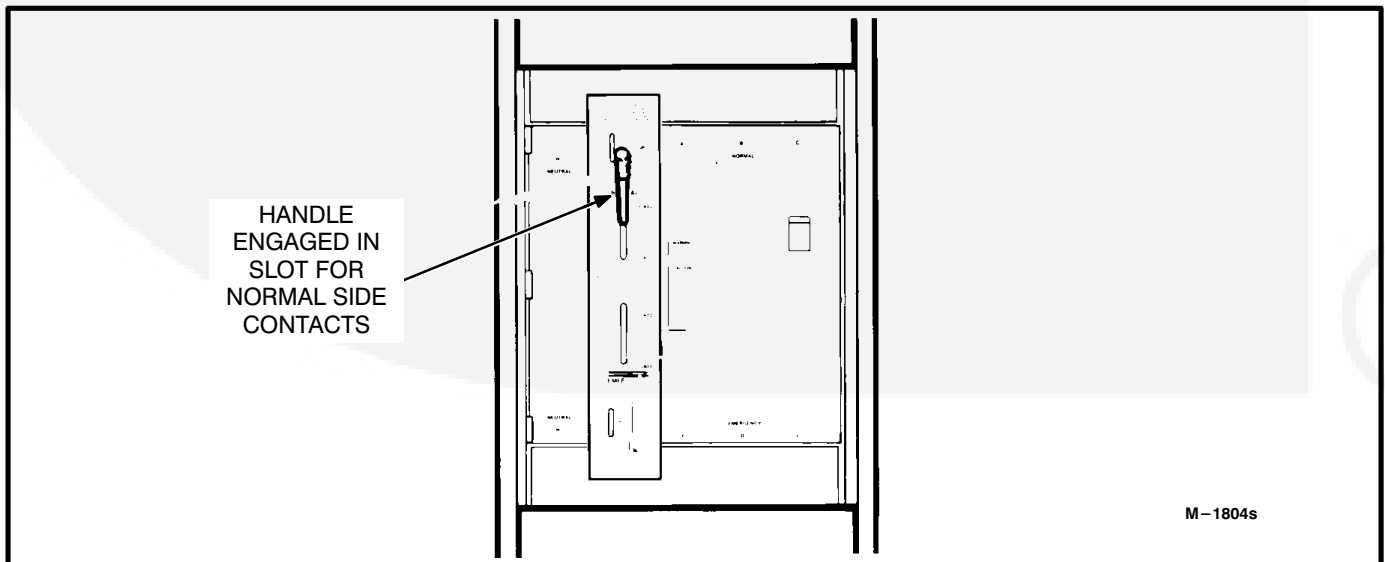

FIGURE 3-1. MANUAL OPERATION
3. A manual operating handle is provided with the transfer switch. The handle is a steel rod or tube, with a knob or hand grip on one end. On standard transfer switches (Figure 3-1), there are two manual operator slots—one for the Normal contacts and one for the Emergency contacts.